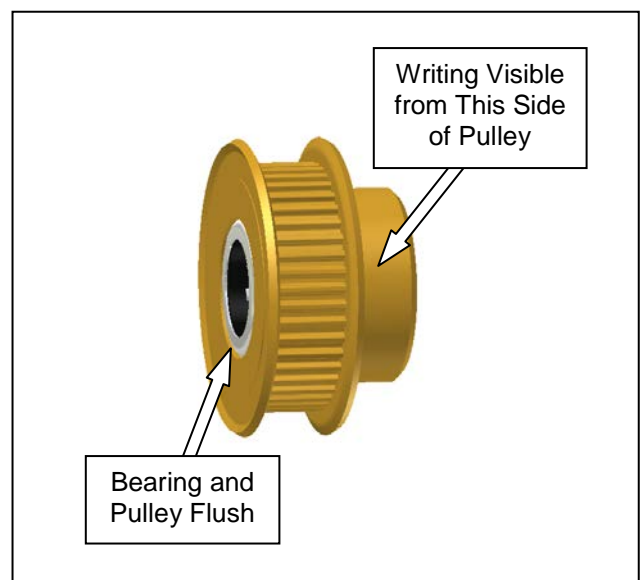

Figure 3-206. DC Roller Clutch Orientation
- The DC roller clutch now needs to be pressed out of the pulley. Once removed, insert the new clutch into the pulley, oriented such that the writing on the end of the bearing is visible when looking into the hub side of the pulley. The roller should be flush with the opposite (flange) side of the pulley to ensure proper operation. (As shown in Figure 3-206)